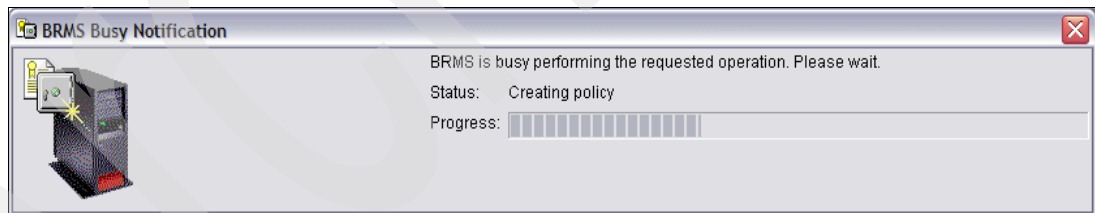

Figure 6-67 BRMS Busy Notification
25. Our backup policy was successfully created (Figure 6-67). We can run it now, schedule it now, or add some things to our backup policy.